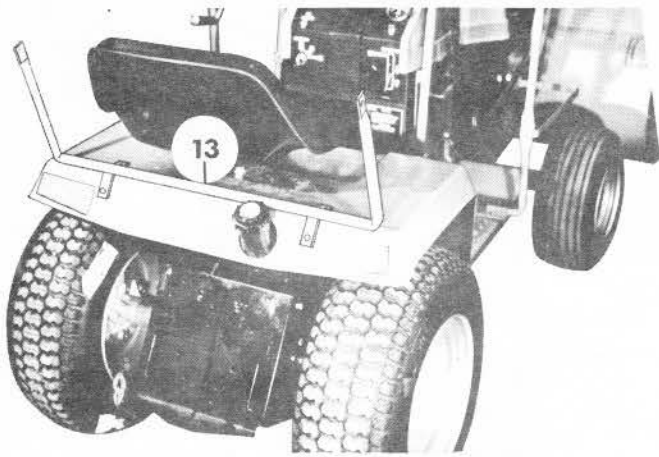

FIGURE 11
STEP 10: SEE FIGURE 11:
A. Place PART 13 onto seat deck approximately as shown. Center the PART 13 crosswise, position it forward and backward on the "break" in the seat deck so it fits solidly, and then mark the seat deck for the drilling of four 9/32" holes. After drilling holes, secure PART 13 to seat deck by using FOUR BOLTS (22) and NUTS (20). Tighten the FOUR bolts.